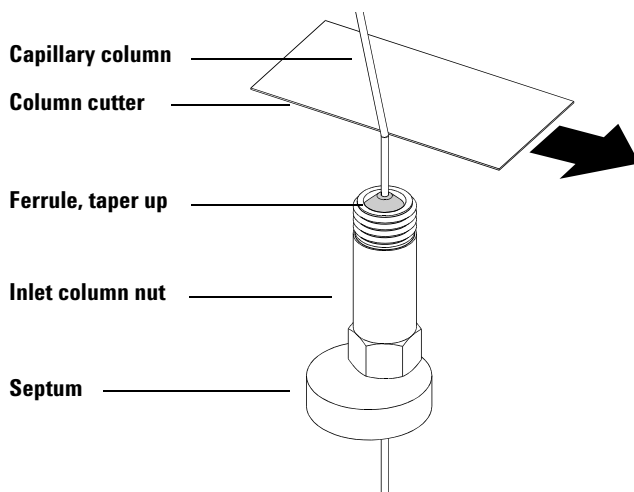

Figure 4 Preparing a capillary column for installation
- 2 Slide a septum, column nut, and conditioned ferrule onto the free end of the column (Figure 4). The tapered end of the ferrule should point away from the column nut.